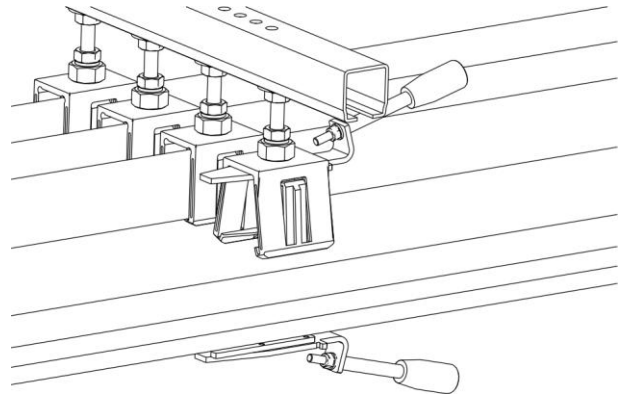

Fig. 67: Remove Tool 2 from the open side of the conductor rail
- Remove Tool 2 from the open side of the conductor rail (see Fig. 67).